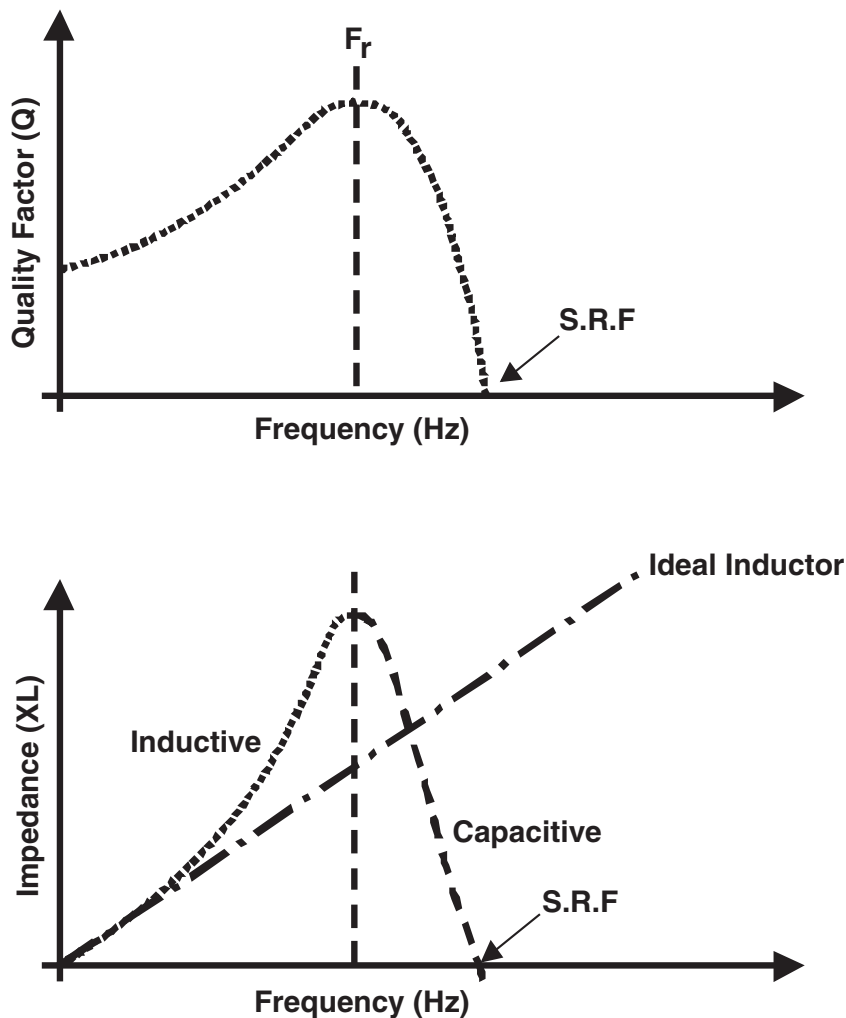

Fig. 2.0 Impedance and Inductance Characteristic of a Real World Inductor
The effect of  $C_d$  can have a dramatic effect upon the impedance of the inductor as illustrated in Fig 2.0, because "fringe" effects become dominant at high frequencies. At low frequencies the inductor's reactance parallels that of an ideal inductor. With increasing frequency the reactance of the inductor departs from the ideal curve and increases at a much faster rate until it reaches a peak value at the inductor's parallel resonant frequency ( $F_r$ ). Above  $F_r$  the inductor's reactance begins to decrease with increasing frequency and thus the inductor begins to look like a capacitor. The series resistance ( $R_s$ ) of the coil prevents the impedance of the inductor from reaching infinity at resonance ( $F_r$ ). Another effect of  $R_s$  is to broaden the resonant peak of the impedance curve at  $F_r$ .
At low frequencies, the Q of an inductor is very good because the only resistance in the winding is the dc resistance of the wire which is very small (Fig. 2.0). As mentioned earlier, as the frequency increases, the skin effect increases to degrade the Q of the inductor. At low frequencies, the Q increases directly inline with the reactance (XL) since the skin effect has not become noticeable. The Q continues to rise, but as the frequency approaches Fr, the skin effect starts to become a dominant, reducing the rate of increase. At Fr, the series resistance and reactance are increasing at the same rate. Above Fr, the distributed capacitance Cd and skin effect of the winding combine together to decrease the Q of the inductor to zero at SRF.